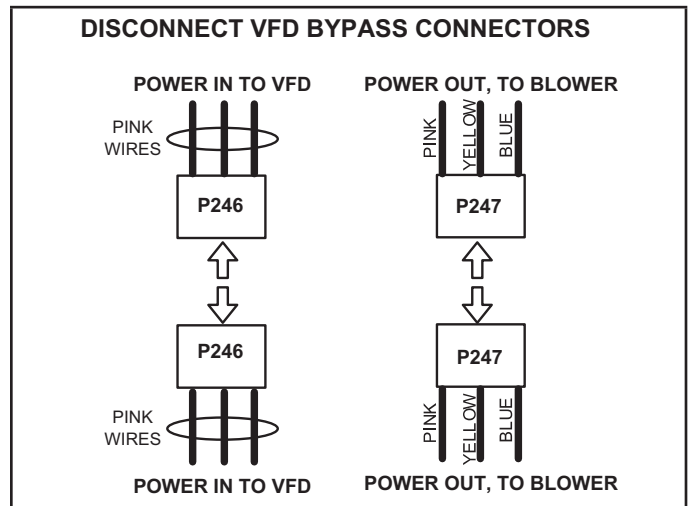

FIGURE 50
- 3 - Disconnect P246 from P246 (power in to VFD) and P247 from P247 (power out to blower). See FIGURE 50.